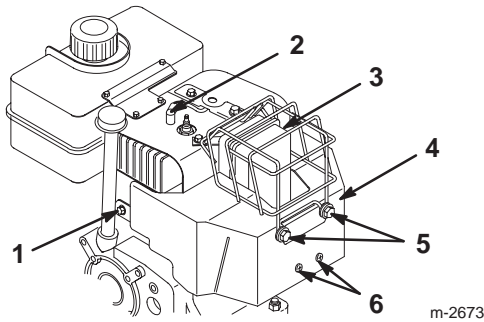

Figure 18
If you operate the engine when the air temperature is above 40°F (4°C), remove the carburetor heater box (Fig. 18).
1. Disconnect the wire from the spark plug and ensure that the wire does not contact the plug (Fig. 18).
4. Remove the fasteners that secure the carburetor heater box (Fig. 18).